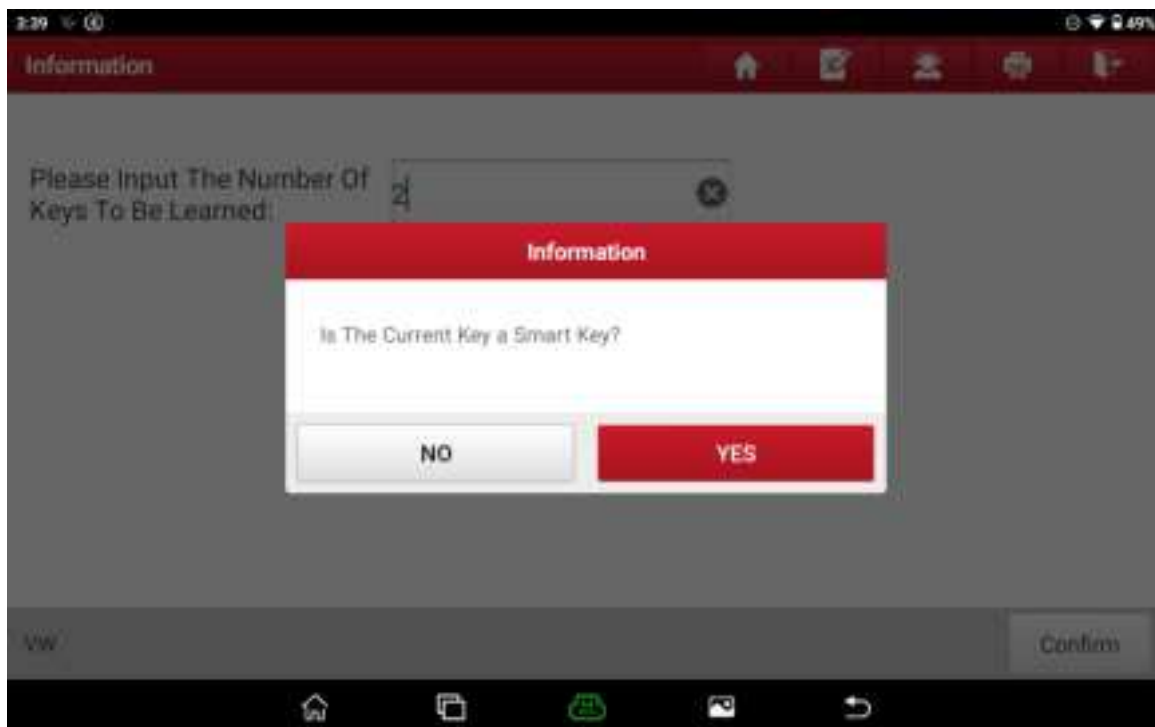

Figure 30
29. The current key is a smart key. Select Yes, as shown in Figure 30.